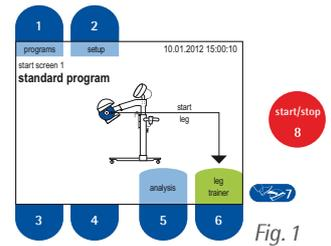
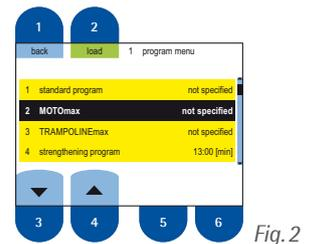

Fig. 1
Fig. 2
- 6a **Starting the training (standard program):** Push the red button ⑧ "start/stop".
At first, the start screen (fig. 1) comes up. Start your training by pushing the button ⑥ "leg trainer". The foot shells will start moving automatically. In order to set a training time push the button ① "menu" (fig. 3-7). Push the buttons ③/④ (▼/▲) to select line 2 "duration" and use the buttons ⑤/⑥ (←/→) to set the desired training time (not shown). To return to your training screen push button ① "back".
- 6b **Select and initialize a preset TherapyProgram:** From the start screen, (fig. 1) push button ① "programs". Once you have accessed this menu, (fig. 2) use buttons ③/④ (▼/▲) to mark the desired program and push button ② to "load" it. You will be transferred automatically to the start screen (fig. 1), where your selected program will be indicated. Start your training by pushing the button ⑥ "leg trainer".
- 13 **End of training/analysis:** Push twice the red "start/stop"-button ⑧ (fig. 1). After 10 seconds the training analysis will pop up automatically.